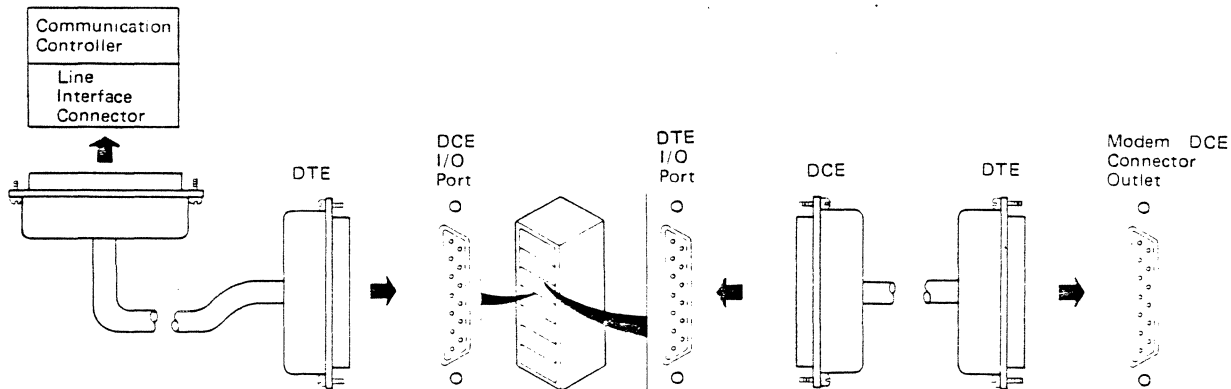

Figure 8-11. Connecting a Communication Controller to a Modem Through the Matrix Switch
1. Connect the DCE end of an EIA cable to the DTE I/O port on the Matrix Switch I/O Port Connector Panel (Figure 8-11).